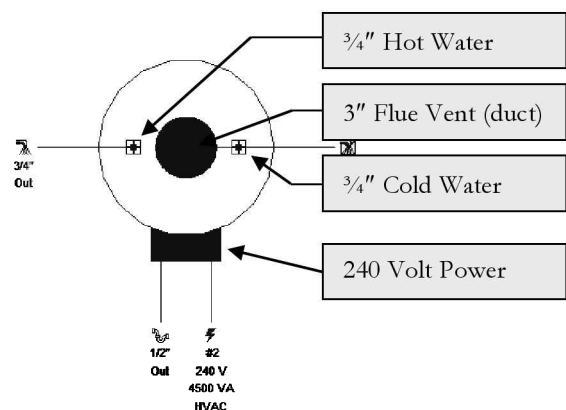

FIGURE 13-5.3 Water Heater connectors
Immediately after the element is placed, it is selected. Notice all the connectors available (Figure 13-5.3). This one family has the three major types of connectors: duct, pipe and power.
14. **Right-click** on the hot water connector (see Figure 13-5.3).